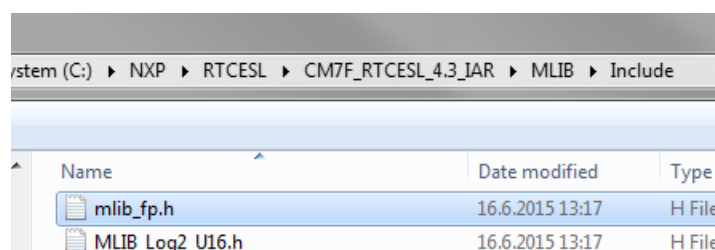

Figure 1-32. Add Files dialog
5. Navigate into the library installation folder C:\NXP\RTCESL\CM7F_RTCESL_4.3_IAR\MLIB\Include, and select the *mlib_fp.h* file. (If the file does not appear, set the file-type filter to Source Files.) Click Open. See Figure 1-32.